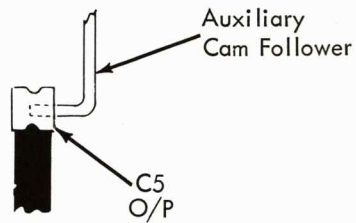

FIGURE 134. Contact Installed
2. Unit Installed - Position the O/P centrally over the auxiliary cam follower (Fig. 134).